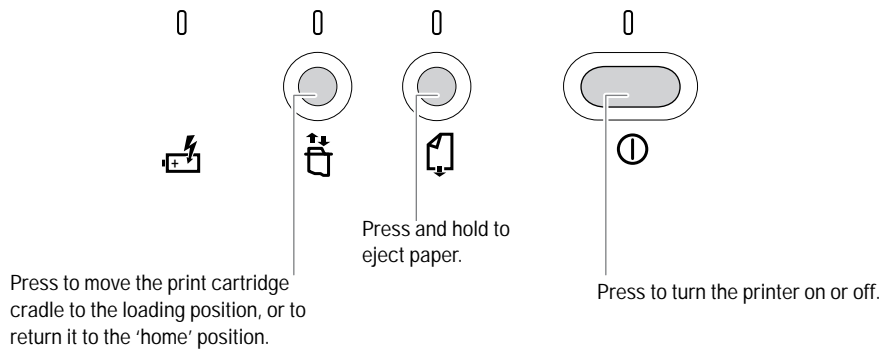

Figure 3-1. HP DeskJet 340 Printer Buttons and Lights
3. The HPDeskJet 340 has a different set of buttons. Refer to figure 3-1.